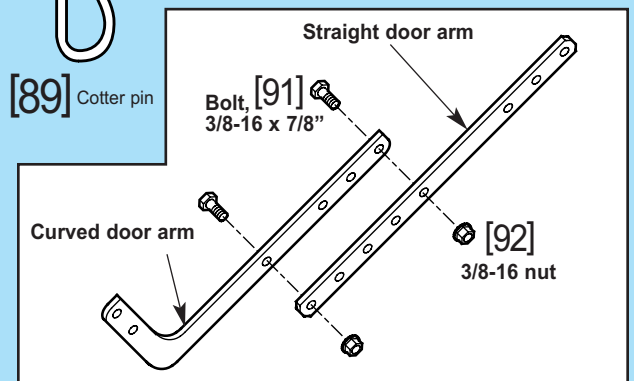

Fig. 2-8
10. Join door arm sections (Fig. 2-8).
- Use two (2) 3/8" x 7/8" hex bolts [91], and hex flange nuts [92].